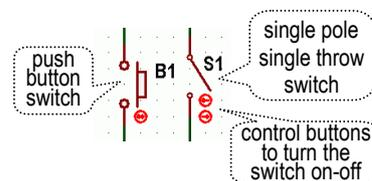

Fig.5. Circuit symbols of Pushbutton and SPST switches
- 5- Two kind of switches are shown in Fig.5 . These switches are active circuit elements changing state by clicking on their control buttons.